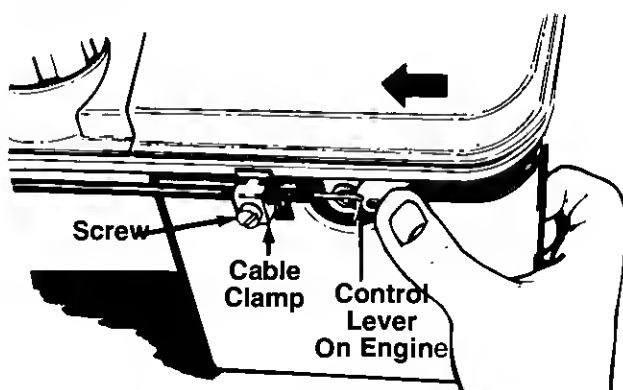

FIGURE 11.
1. Remove the screw shown in figure 11. Remove the cable clamp from the cable.